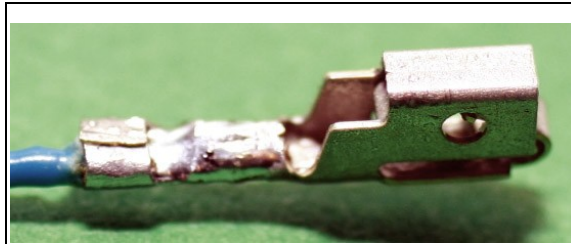

Figure 22: Solder wire to contact, bend large tabs over insulation.
2. Touch your soldering iron to the small tabs and the wire, and **solder** the wire to the contact; the solder should flow under the small tabs. When cool, use pliers to bend the large tabs over the wire insulation. The result should look like Figure 22.